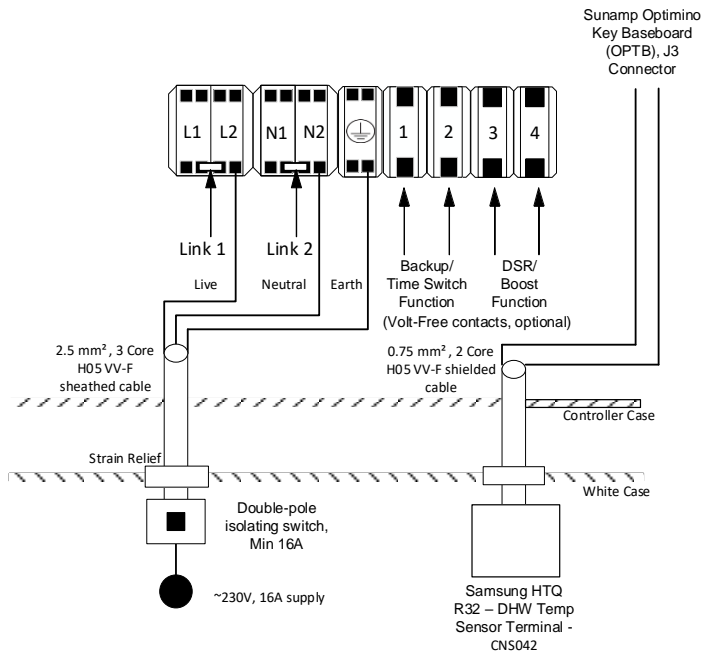

Figure SG.1 - Thermino xPlus with SG01 Optimino Key
- Thermino xPlus with the “SG01” & “SG02” Optimino Keys (D0084 – Section 6.3.2 for wiring instructions & Figure SG.1 below)
cables in terminals J3 on the Optimino Board J3, please see Figures SG.1 & SG.2 below for reference.